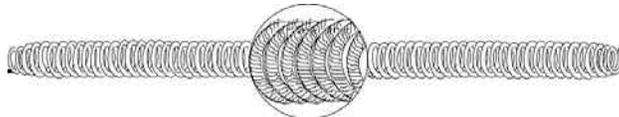

Figure 14. Drive Spring.
7. Check drive spring (Figure 14) if for broken strands, replace if any found broken.